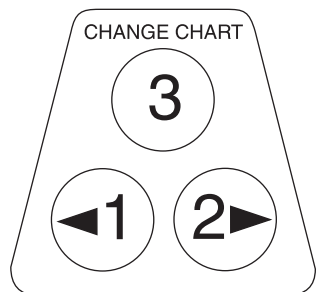

Figure 3-1 Keyboard Layout
Press and release the CHANGE CHART button (#3), Figure 3-1 (pg. 14). The pens will move to the left of the chart and the LED begins blinking rapidly. Unscrew (counterclockwise) the chart “hub” knob at the center of the chart. Wait until the pens stop above outer ring AND the green LED goes to on steady.
Press and release the CHANGE CHART key (3 on Figure 3-1). Wait until the active pen moves off scale AND the LED stops flashing quickly and goes to a steady on. Press and release the CHANGE CHART key (3) again. The pen will begin to move back onto the chart briefly stopping at (or close to) the outermost graduation of the chart. The Green LED remains on steady during this time.